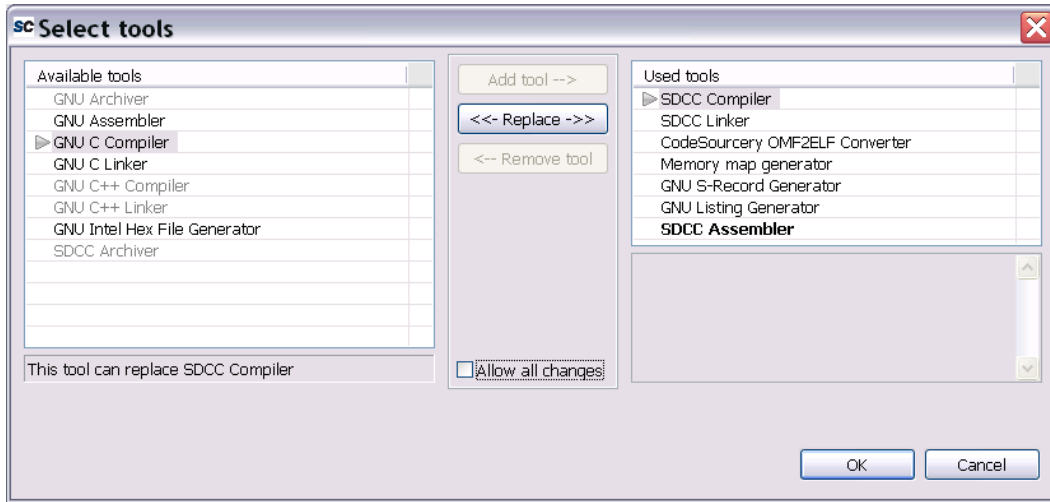

Figure 32 Adding Tools
- Under Available Tools, select **SDCC Assembler** and click **Add tool -->**, as shown in Figure 32.